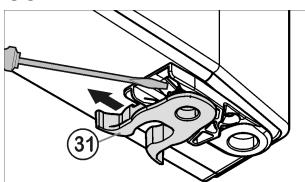

Fig. 8
- ▶ Swap the spring clip *Fig. 8* (31): Push the locating lug down. Pull the spring clip up and out.